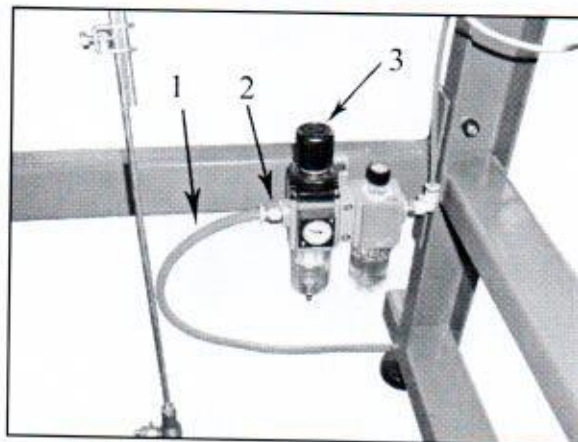

Fig.1
3.1 Compressed air supply connection (Fig.1)